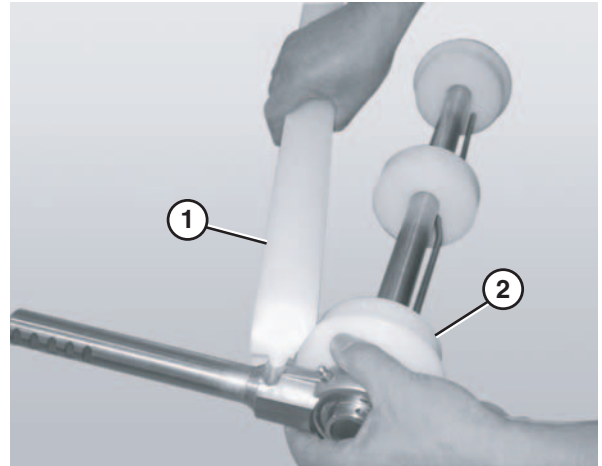

Figure 79
5. Slide the bearing shaft assembly (**Figure 79, item 2**) off the idler shaft.
6. Remove the guard bar (**Figure 79, item 3**).
7. Slide the pucks (**Figure 79, item 1**) off the idler shaft.